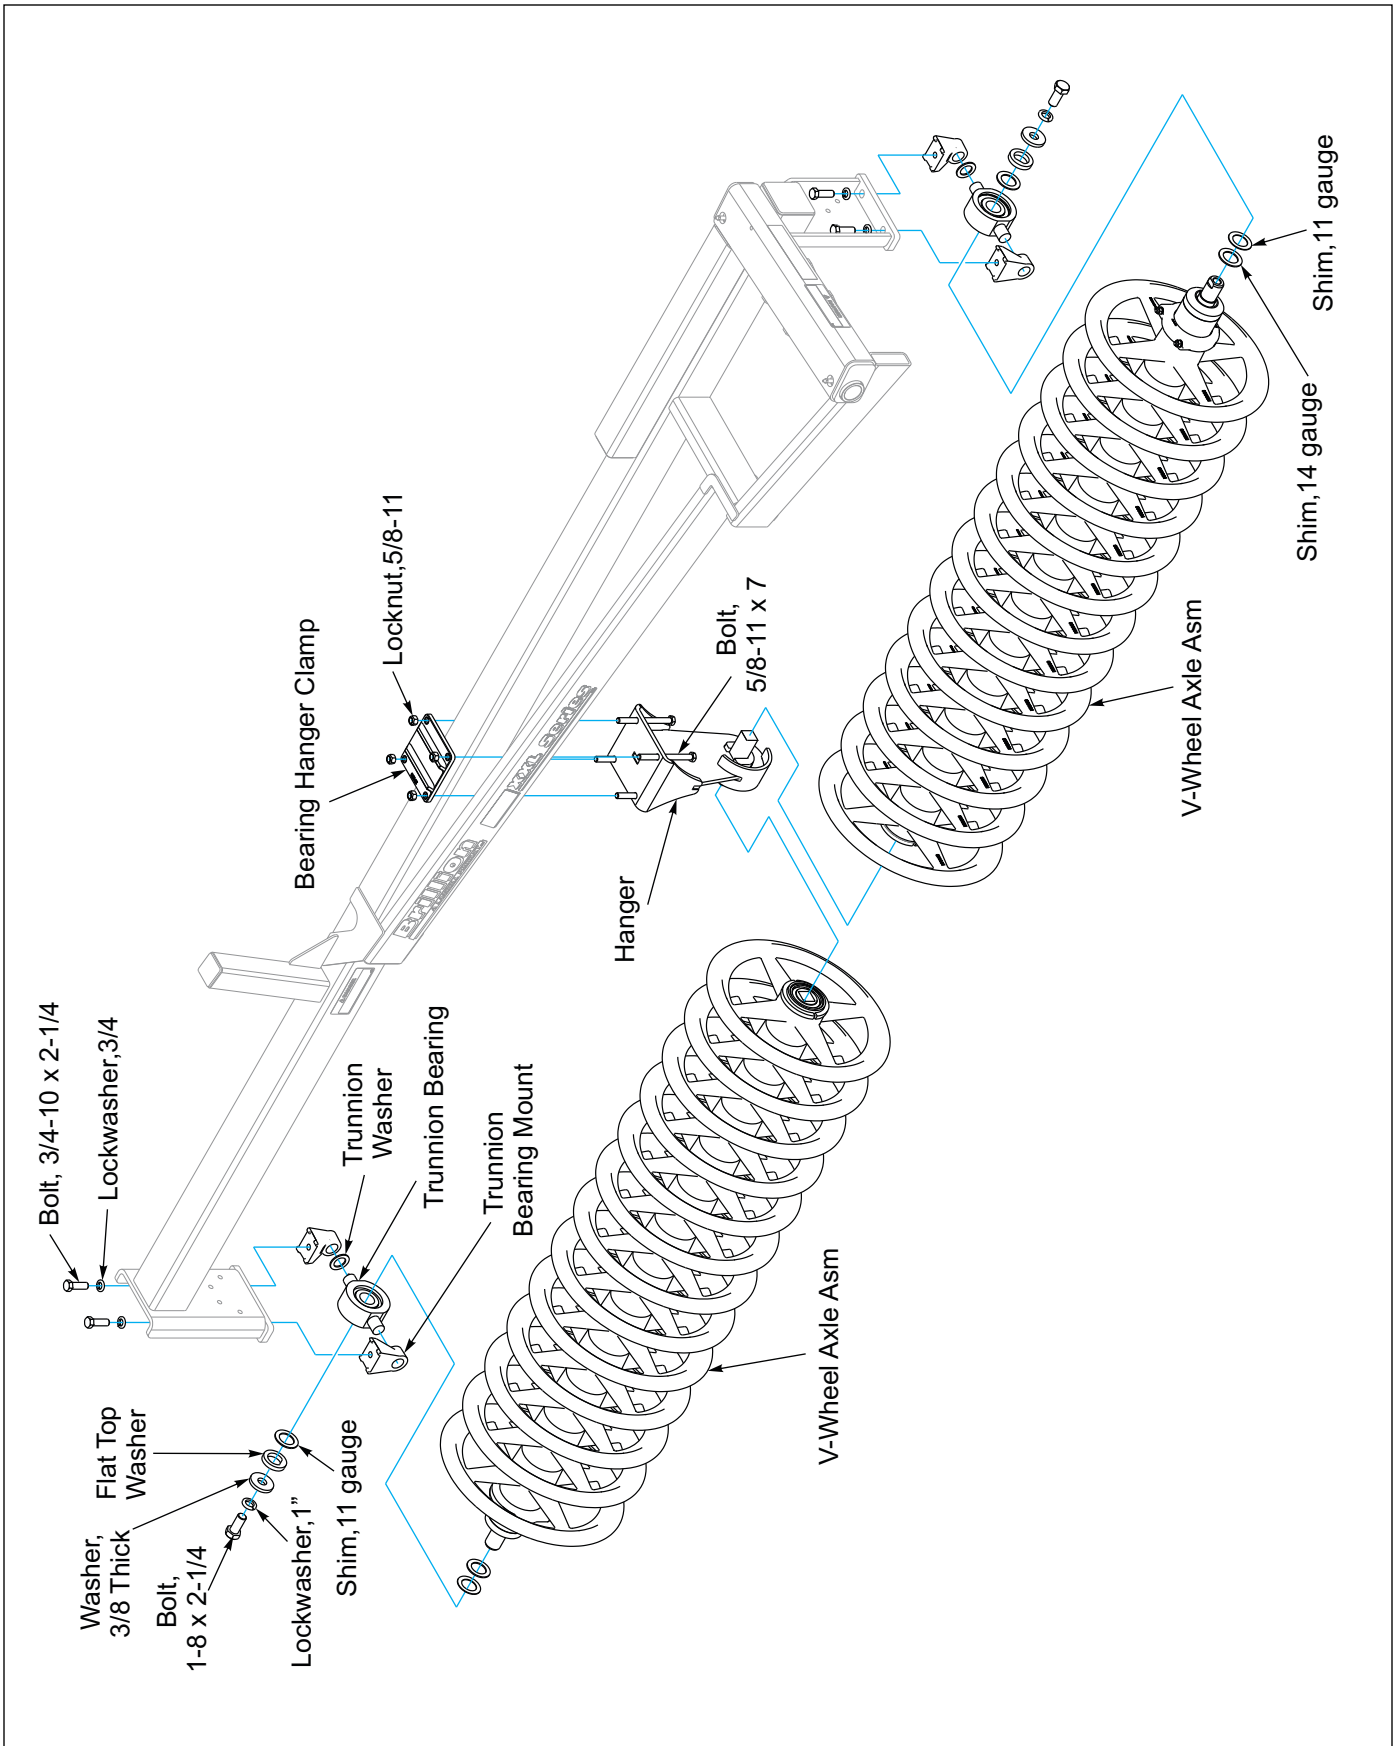

Figure 2-18: V-wheel Wing Roller Assembly Installation (42, 44 and 46 foot models)
1. Position the Roller Center Hanger approximately halfway between the Wing Frame Bearing Hangers. Insert four 5/8-11 x 7 bolts up through the hanger and into the bearing hanger clamp located on top of the frame tube, secure with 5/8-11 locknuts. See **Figure 2-18**.